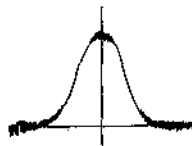

Fig. 2
- Short-circuit the OSC stage by earthing the live side of the variable capacitor in that stage. Adjust the core of T101 so that the gain will be max. In this case, reduce the level of the input signal of signal generator so that the waveform will be one shown in Fig. 2.